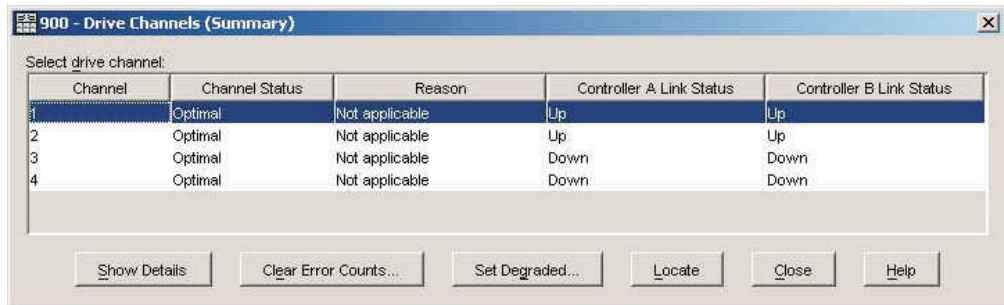

Figure 66. Drive Channels (Summary) window
11. Open the Storage Manager Drive Channels (Summary) window, as shown in Figure 66 (from the Subsystem Management window, click **Advanced > Troubleshooting > Drive Channels**). Clear the error counts; then wait 15 minutes and view the error counts in the upgraded drive loop. If there are none or very few errors, proceed to the next step. Otherwise, wait another 15 minutes and then view the error counts again. If the errors continue to increase, call IBM support for help.